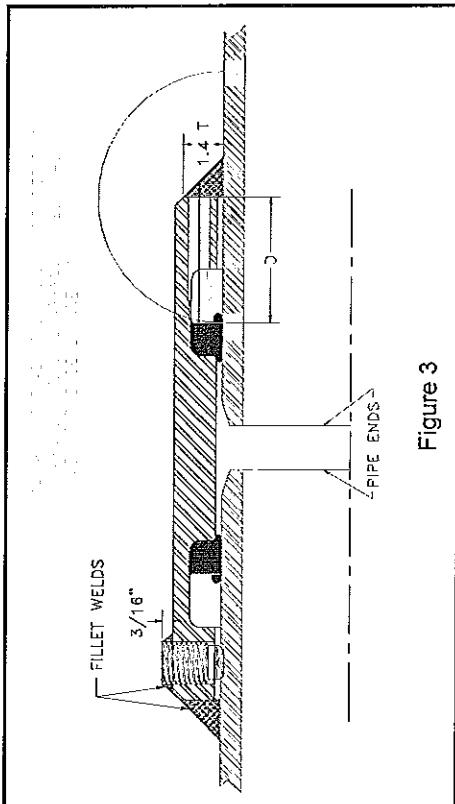

Figure 3
- Thrust screws should be cut or burned off flush. Start with the fillet weld to the pipe around circumference and include seal welding the thrust screws. (See Figure 3)
- Cut or burn off clamp screws approximately 3/16" above the outside surface of the coupling and seal weld. One clamp screw near the top may be removed to serve as a vent while welding and also as a final test point for leakage. (See Figure 3)